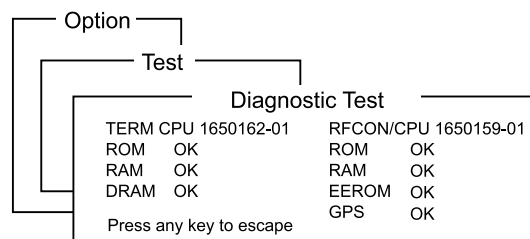

Fig.5.2.2 Test result display
3. Fig.5.2.2 shows the display when the test is finished.